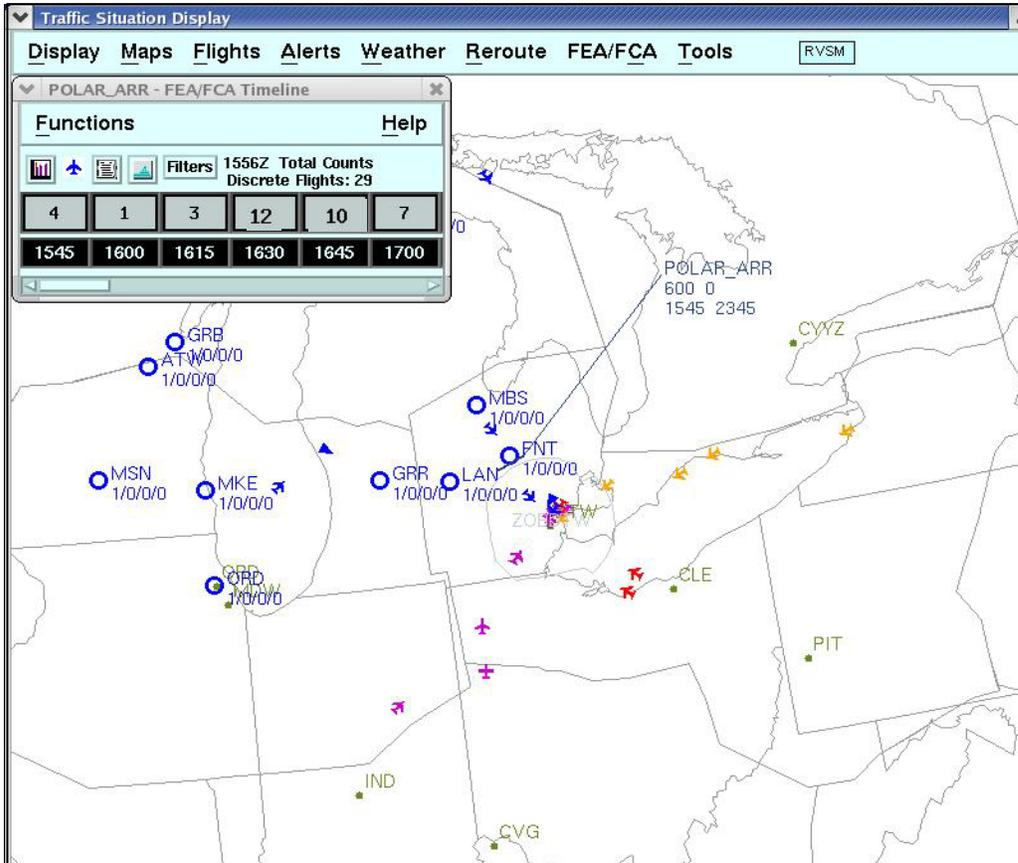

Figure 2-1. FEA for MIT justification
See Figure 2-1 as an example of this FEA for MIT.
**Hint:** How to draw an irregularly shaped FEA (e.g., an arc like those seen in Figure 2-1): An easy way to draw an irregularly shaped FEA like an arc is to hold down the left mouse button while moving the pointer to form the desired shape.